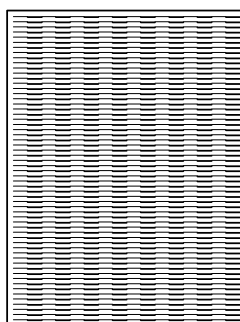

Figure 1
- b) If stripes can be seen (Figure 1), the D-phase adjustment is required. Go on to the next step.
- b) If stripes can be seen (Figure 1), laser beam pitch adjustment is required. Go on to the next step.